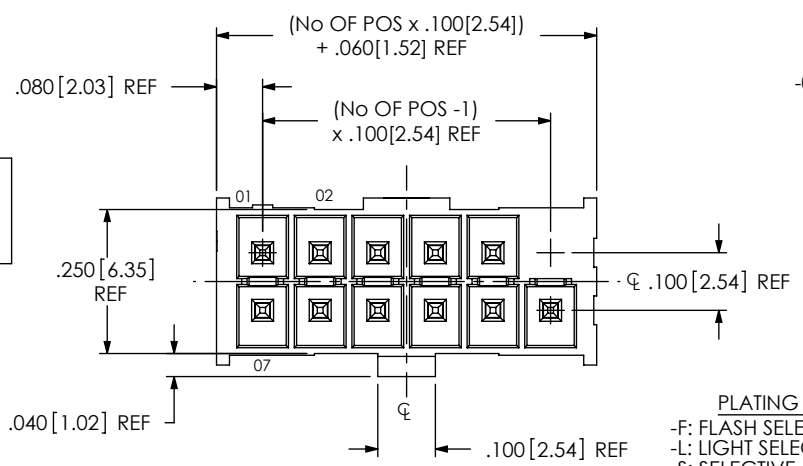

FIG. 1
-P: POLARIZATION (SEE FIG. 1)
[DIFFERENT AS SHOWN, OTHERWISE SAME AS FIG. 1]
(DIFFERENT AS SHOWN, OTHERWISE SAME AS FIG. 1)